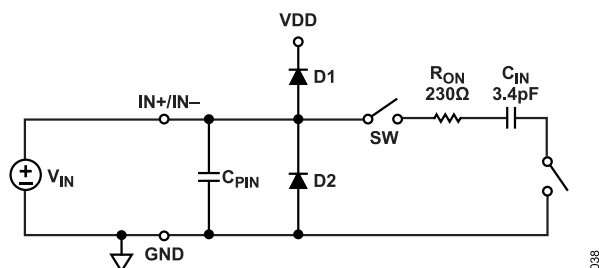

Figure 38. Equivalent Analog Input Circuit
Figure 38 shows an equivalent circuit for each of the AD4052 analog inputs (IN+ and IN-). The analog inputs are modeled as a switched capacitive load. During the acquisition phase, the sampling switch (SW) connects each input pin to the 3.4 pF sampling capacitor ( $C_{IN}$ ), in series with the 230  $\Omega$  switch on resistance ( $R_{ON}$ ). During the conversion phase, SW disconnects to sample the voltages on the IN+ and IN- pins onto the sampling capacitors. D1 and D2 represent the ESD diodes from the IN+ and IN- pins to the VDD supply and GND, respectively.  $C_{PIN}$  represents the pin capacitance of each input pin to GND and is typically 2 pF.